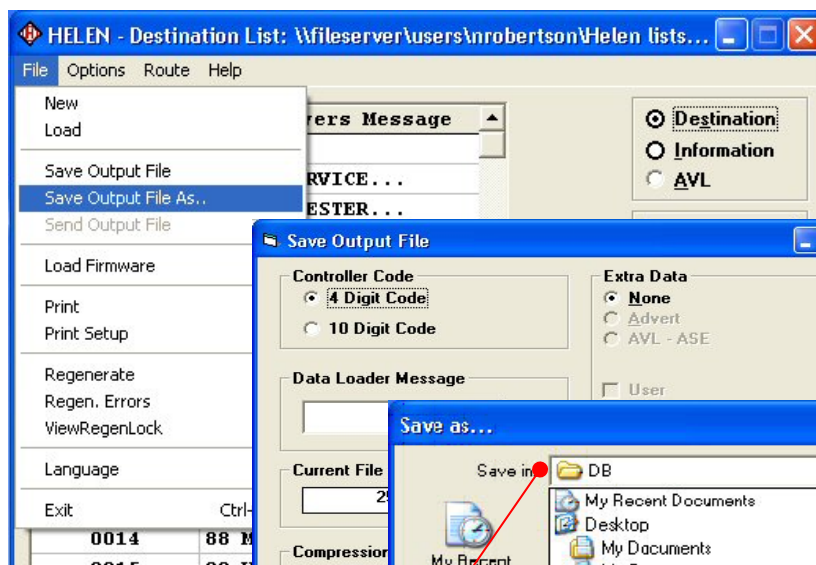
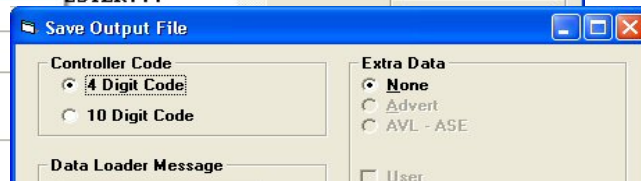

Figure 20
Figure 21
- In **HELEN - Destination List:** window click **File** then **Save Output File As..** in the drop down box as shown in Figure 20. A **Save Output File** (Figure 21) window will appear (4 digit code should be chosen for standard list). Click **OK** box and the **Save as...** window will appear.